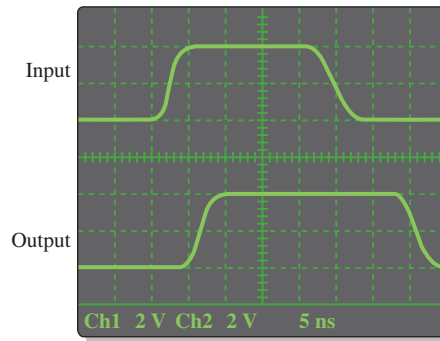

FIGURE 3-91
35. Determine t_{PLH} and t_{PHL} from the oscilloscope display in Figure 3-91. The readings indicate volts/div and sec/div for each channel.